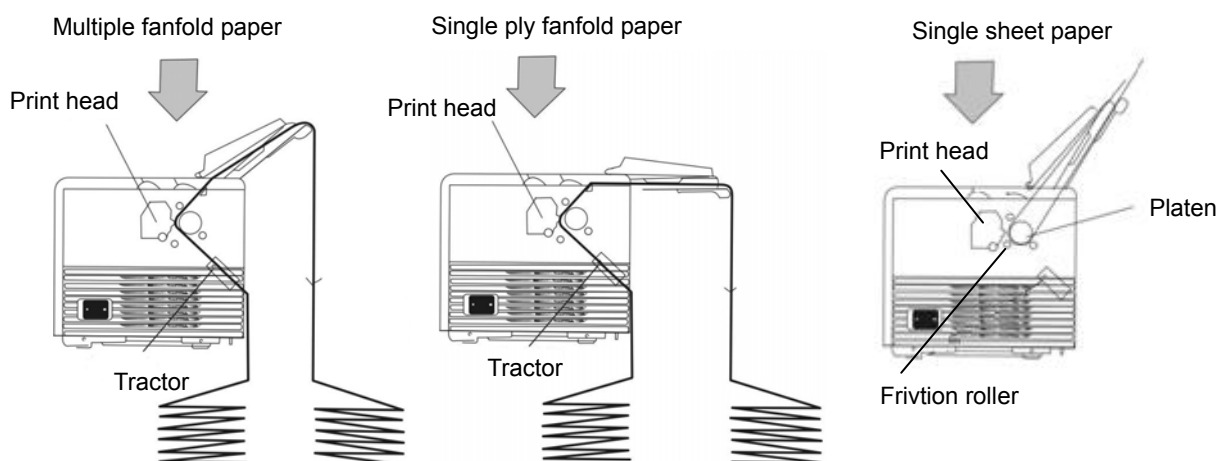

Figure 2-5 Placing the paper rack
- Put the paper rack vertically when using single sheet paper; when using fanfold paper, please put it horizontally. (As Figure 2-5 shown)